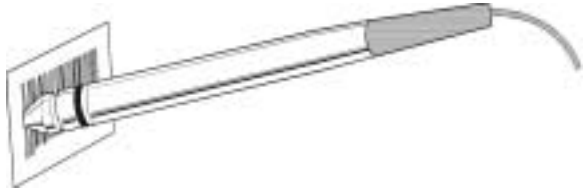

Figure 12. Bar-Code Wand
2. Place the tip of the bar-code wand to the left or right of the bars in the bar-code label. Ensure that the reader touches the label and is within 30° of vertical in any direction (see Figure 12).